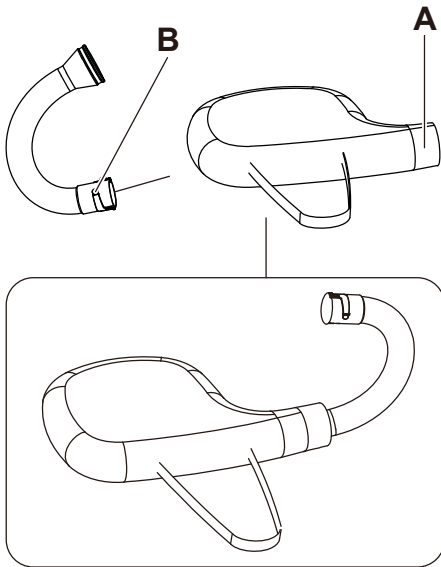

Fig. 4
1. Insert the curved tube through the zipper of the bag. Slotted end of tube (B) goes first through area (A) of bag. See complete assembly picture in FIG. 4 for the proper look. Once the tube is in place tighten the Velcro strap.
3. Open the Velcro and the zipper of the bag, take the curved tube out from the bag.Then close the zipper. (Fig.4)